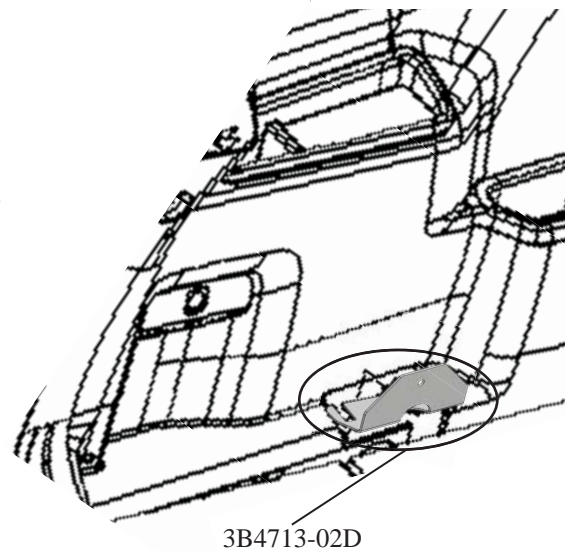

Figure 1
- A. Remove the Driver OEM Rear Pocket Trim Panel, located on the Rear Quarter Trim, just below the Upper Contents Tray. Loosen the two 15mm bolt heads that secure the Cross Member Bracket. (See FIG. 1)
- B. Loosely attach bracket 3CSC4716-05 on the passenger side using the hole location in 3B4713-02P as seen in Figure 1. Make sure the bracket is placed in the inner-most position, and secure it with the provided 3X36 bolt and 3X16Z nut. Repeat on the driver side.